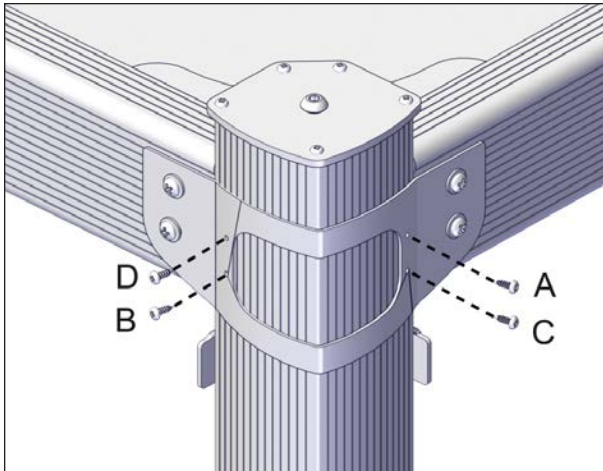

FIGURE 49: INSTALLATION PATTERN FOR CORNER BRACKET SCREWS ATTACHED TO THE SLEEVE
28. Install #8 x 1/2" self-tapping screws (4) to fasten the corner bracket to the sleeve and follow the A to D pattern shown in Figure 49.